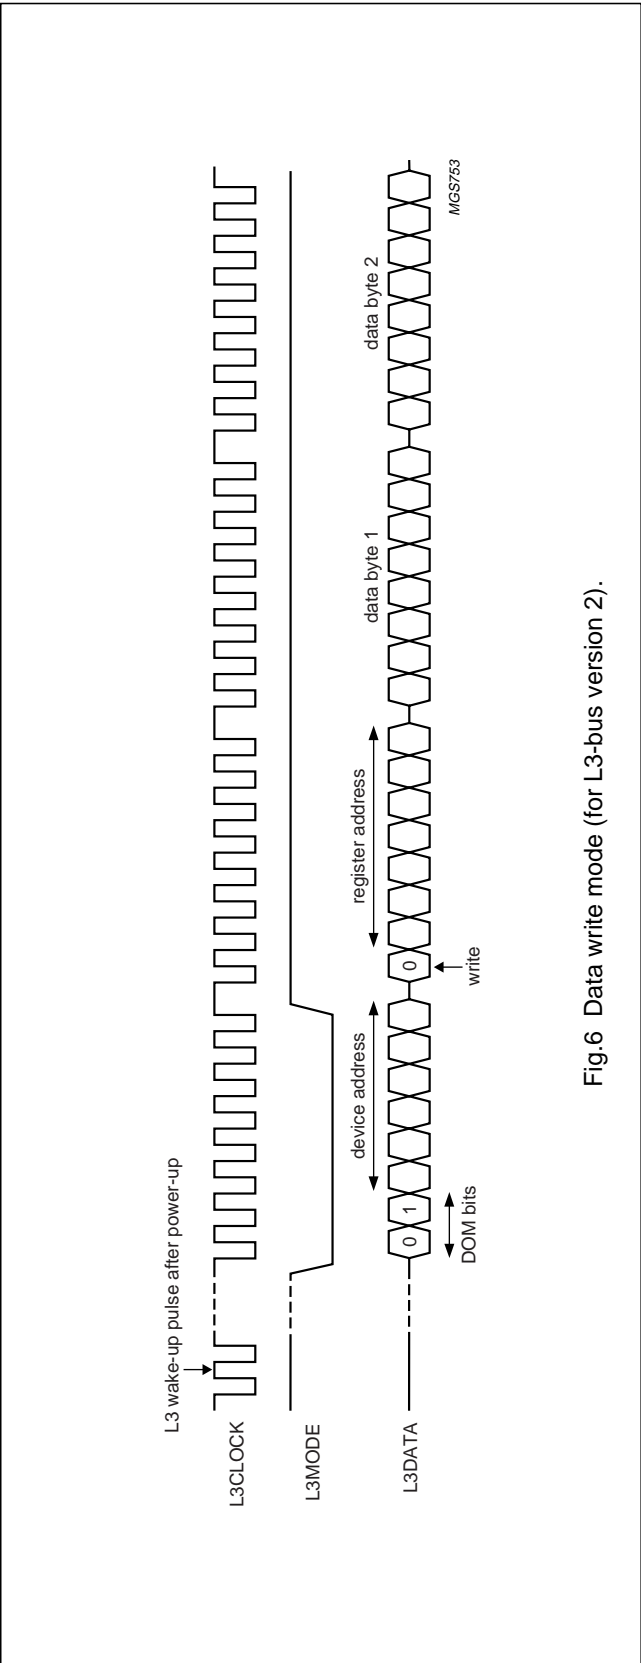

Fig.6 Data write mode (for L3-bus version 2).
The address mode is used to select a device for a subsequent data transfer. The address mode is characterized by L3MODE being LOW and a burst of 8 pulses on L3CLOCK, accompanied by 8 bits (see Fig.6). The data transfer mode is characterized by L3MODE being HIGH and is used to transfer one or more bytes representing a register address, instruction or data.
**Remark:** when the device is powered-up, the L3-bus interface must receive at least one L3CLOCK pulse before data can be sent to the device (see Fig.6). This is only required once after the device is powered-up.
- To write data: bit 0 is logic 0 specifying that data will be written to the device register, followed by bits 1 to 7 specifying the device register address (see Fig.6)
The data write mode is explained in the signal diagram of Fig.6. To write data to a device requires four bytes to be sent (see Table 7):